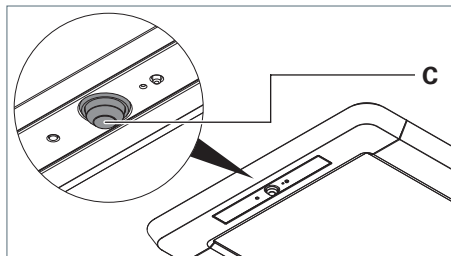
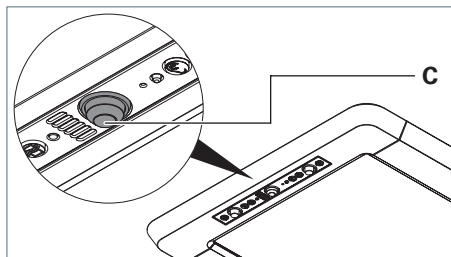

Fig. 22: PIR sensor, version R.
Fig. 23: PIR sensor, version RX.
- Set the ball head **C** of the PIR sensor to the required direction, see Fig. 22 and see Fig. 23.